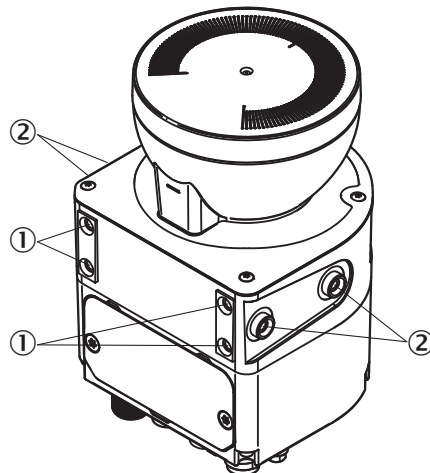

Figure 48: Mounting the safety laser scanner directly
- ① Rear M5 threaded hole
- ② Side M5 threaded hole
- ▶ Use either the rear or the side M5 threaded holes for direct mounting, see figure 48, page 73.